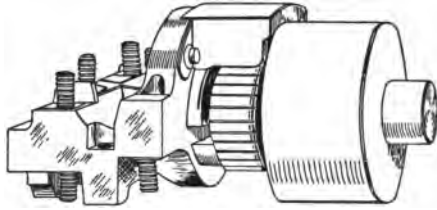
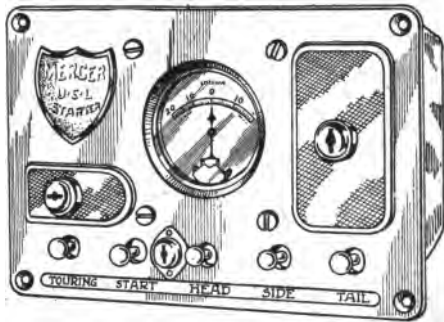

Fig. 339. U.S.L. Type E-14 Starting Switch
Fig. 340. U.S.L. Control Panel as Mounted on Dash of Mercer Cars
**Starting Switch.** This is of the magnetically operated type and is mounted on the top of the field-mounting frame. It operates by means of a solenoid and plunger, as illustrated in Fig. 339. Control is by means of a spring push button on the control unit marked "start", Fig. 340. When this button is pushed in, it energizes the solenoid of the starting switch, which causes the plunger to close the contacts. Releasing the button on the control unit breaks the circuit, and the switch itself is then opened automatically by a self-contained spring. With this method of control, the current is only on as long as the starting button is held in.